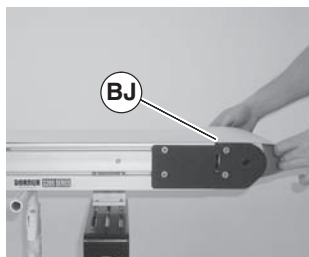

Figure 41
3. Install belt (Figure 41, item BJ) on conveyor. Lift conveyor slightly to avoid pinching belt on temporary support stands.